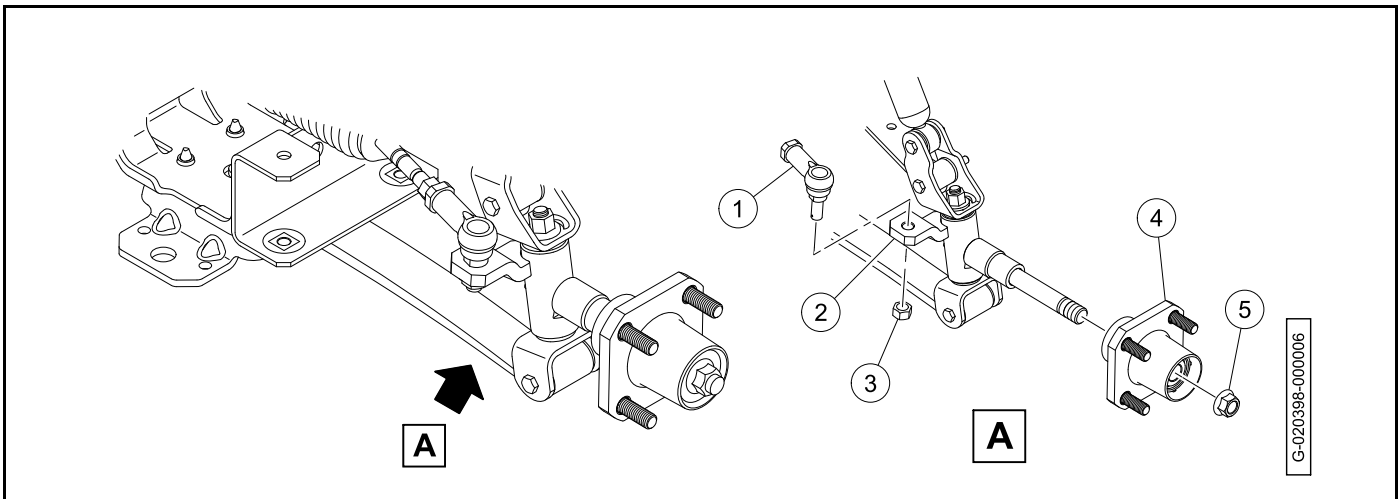

Figure 7-29
3. Install the bolt (2). Tighten the bolt to 30 lb·ft (41 N·m).
4. Install the wave washer (3) on the kingpin.
5. Install the spindle (4) on the kingpins.
6. Put the upper clevis (5) over the kingpin threads and install nuts (6). Tighten the nuts to 70 lb·ft (95 N·m).
7. Install the tie rod end (1) to the spindle tab (2) (**Figure 7-29, Page 7-22**).